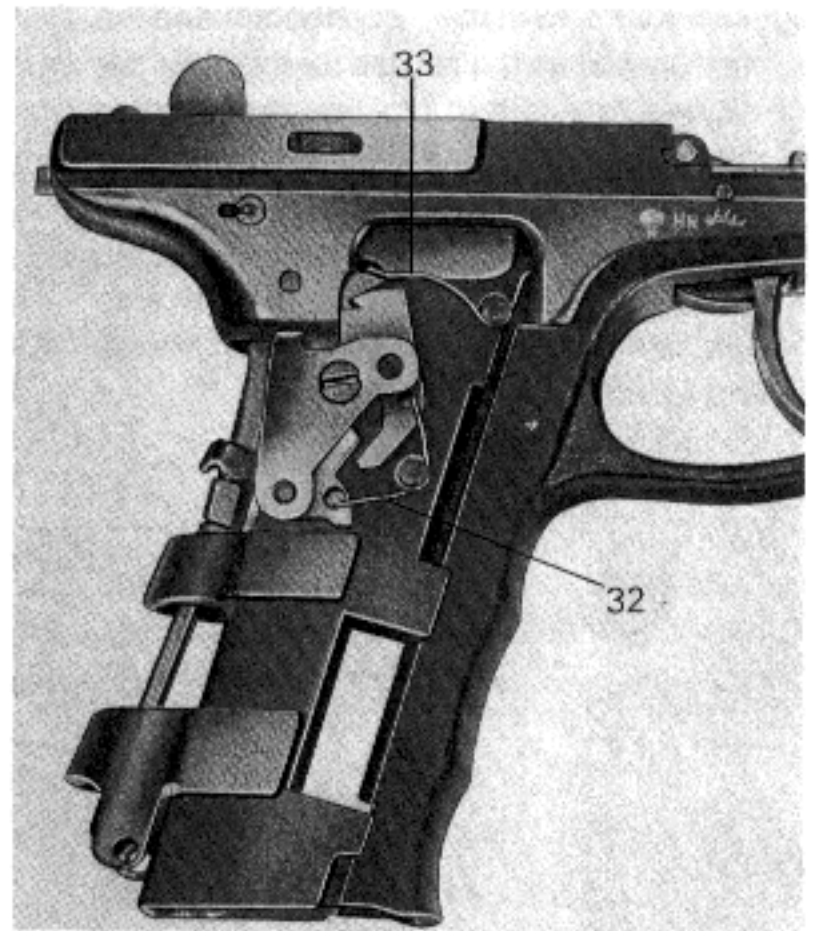

Fig. 48
- Engage the pull bar spring (33) on the right-hand side of the receiver – short leg towards the muzzle end, long leg located in the slot in the pull bar – (Fig. 48).
- Locate the elbow spring (32) on the pivot on the right-hand side of the receiver; engage the ends of the spring into the angle lever (26) and the intermediate lever (30) (Fig. 48).